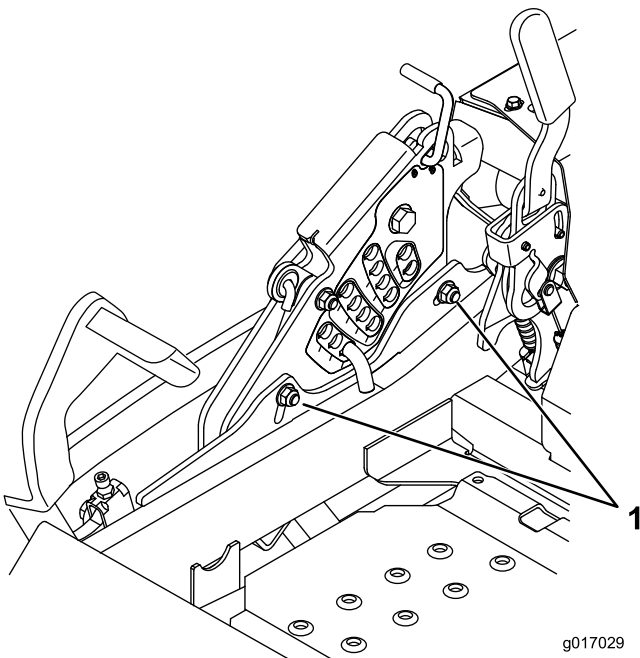

Figure 92
12. To adjust the single-point system, loosen the 2 bolts at the bottom of the height-of-cut plate (Figure 92).